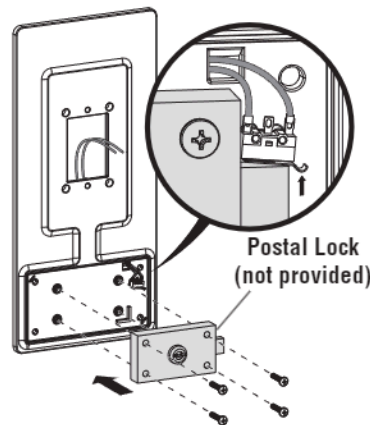

Figure 1
1. Fasten Postal Lock to Trim Panel using #10 Phillips screws and hex nuts provided. (See Figure 1)
2. Verify switch is depressed while in the locked position. Adjust as needed. (See inset of Figure 1)
5. Make sure Postal Lock Switch wires are routed through the wire egress opening. (See inset of Figure 1)